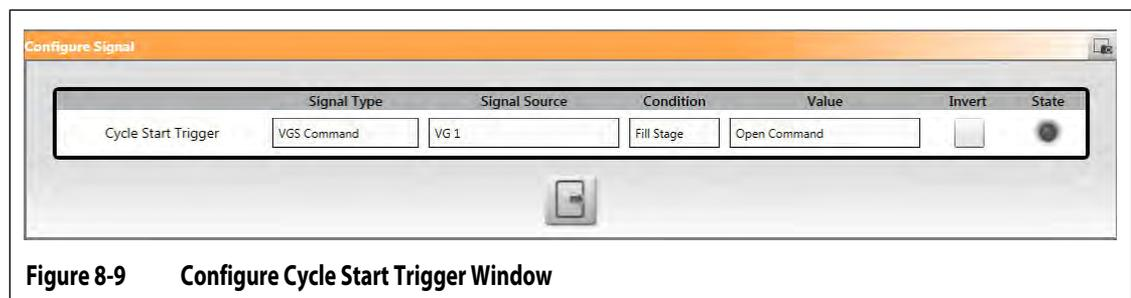

Figure 8-9 Configure Cycle Start Trigger Window
3. Touch the **Cycle Start Trigger** gear button. The Configure Signal dialog window shows (refer to Figure 8-9).